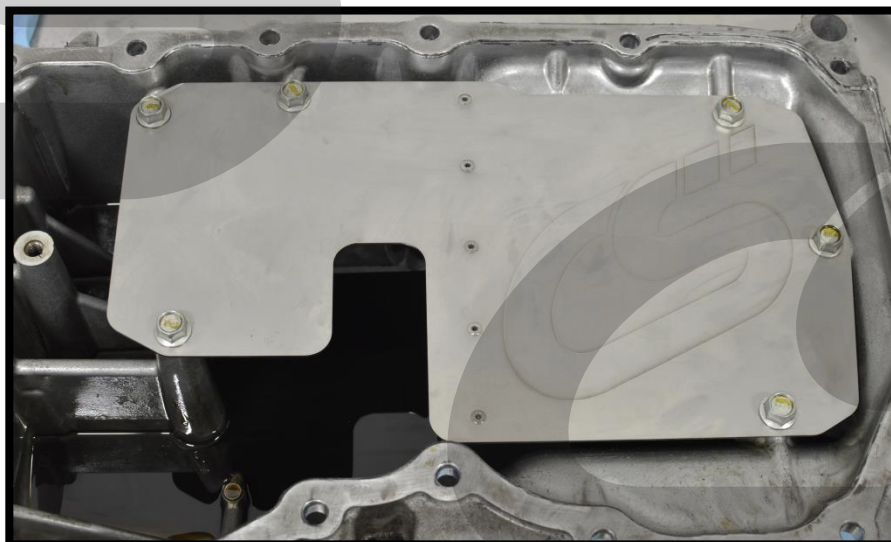

Figure 6b
- b) Install the CorkSport Oil Pan Baffle into the OE pan. Secure with six (6) of the OE 12mm bolts. Tighten to 20-25 ft-lbs. Proper installation shown in Figure 6b.